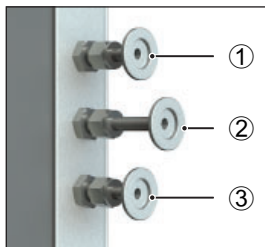
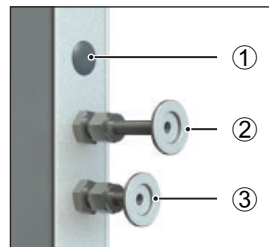

Fig. 21 Connections on the back of VO 49 Premium and VO 101 Premium appliances
Fig. 22 Connections on the back of VO 29 Premium units and all standard appliances
Connect the vacuum connection to the back of the unit (Fig. 21 and Fig. 22 ③) to the vacuum pump connection of the pump module or another suitable vacuum pump using the connecting hose.
Connect an inert gas cylinder (pressure reducer) with a connecting hose with DN16KF connection to the connection on the rear of the unit (Fig. 21 ②). Set pressure reducer to between 1.0 and 1.2 bar.